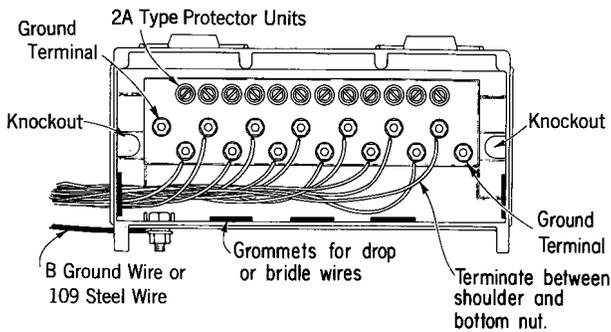

Fig. 5 - 116D2B-6 Protector (cover omitted for clarity)
2.04 The internal wiring for a 116D2B-6 Protector and a 104B2-6 Wire Terminal is shown in Figs. 5 and 6, respectively.